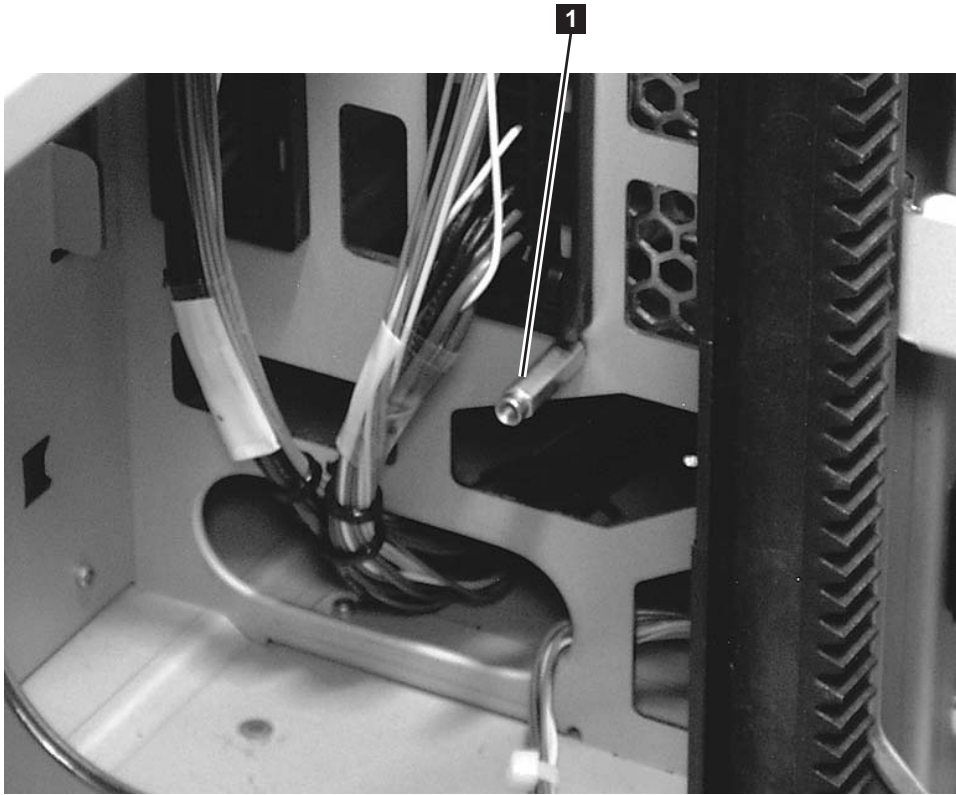

Figure 8-75. Hex stand-off behind the Cable Spool Assembly
- b. Remove the hex stand-off (see **1** in Figure 8-75 on page 8-77) from behind the Cable Spool Assembly. This requires a 5 mm (3/16-inch) wrench.